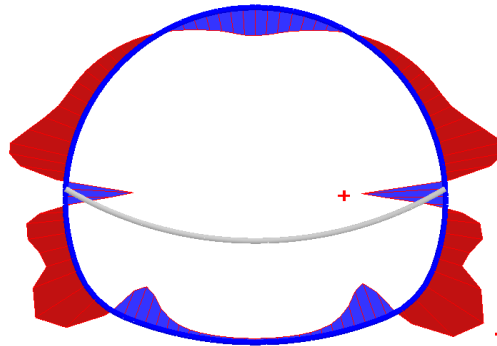

Figure 7.12 Resulting bending moments in the NATM tunnel
- From the *Forces* menu select the *Bending moment M* option. The result, scaled by a factor of 0.5 is displayed in Figure 7.12.